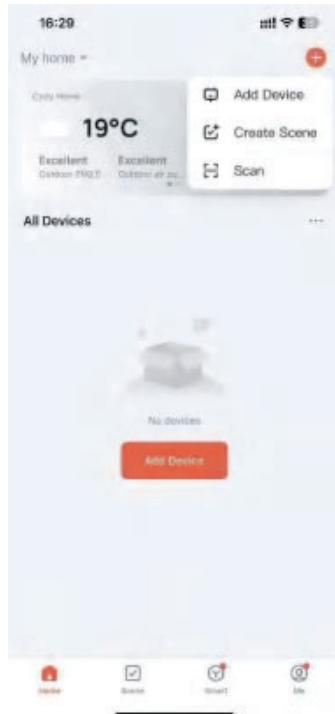
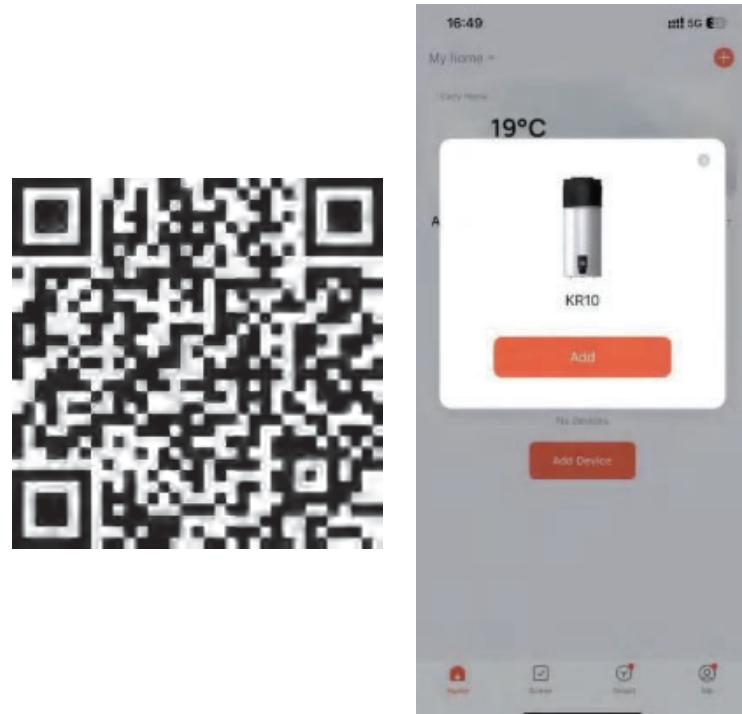
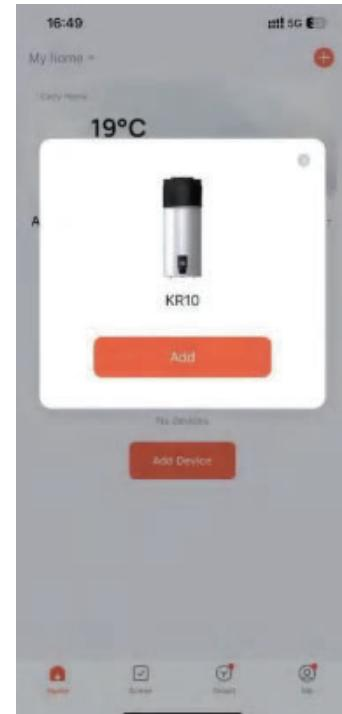

Fig4.5
Fig4.6
Fig4.7
1.5 If the APP cannot find any appliance. Click **Scan** (Fig4.5) change to auto scan page. Scan the QR code below (Fig4.6), Click **Add** (Fig4.7) change to Reset the device page,then follow the prompts on the app to complete the network distribution.